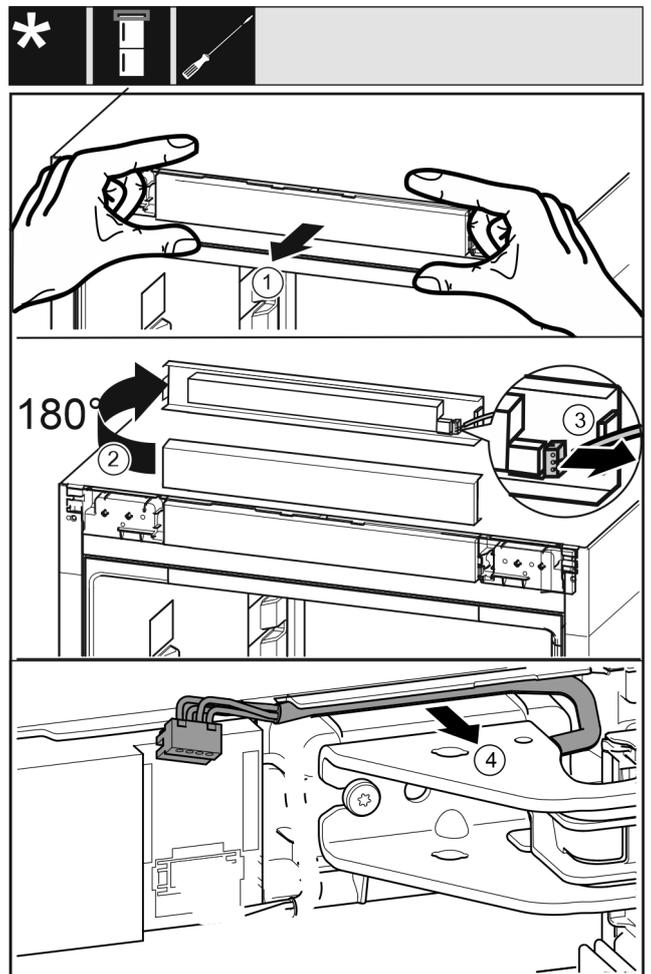

Fig. 9
- ▶ Loosen the appliance's control panel trim by pulling forward carefully. *Fig. 9 (1)*
- ▶ Turn the control panel trim upwards by 180°. *Fig. 9 (2)*
- ▶ Push the locking tab backwards and remove the plug carefully. *Fig. 9 (3)*
- ▶ Release the cable over the swap bearing block from the guide carefully. *Fig. 9 (4)*